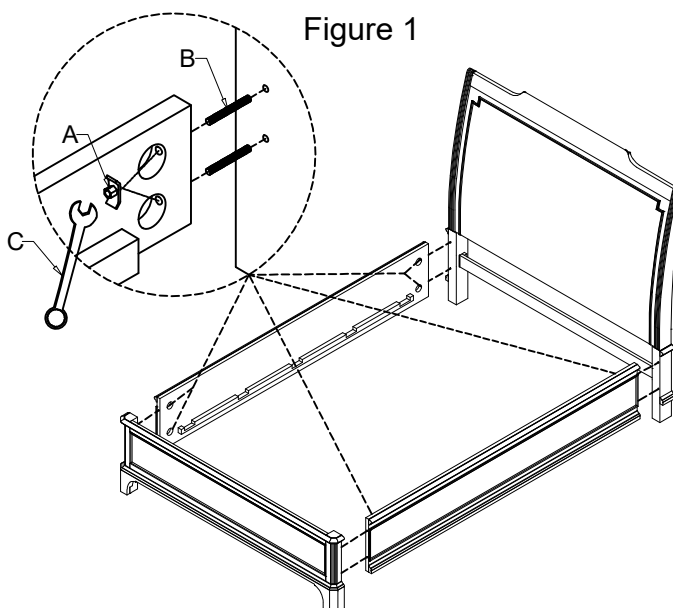

Figure 1
1. Screw the Thread Bolt (B) into the threaded insert of the Headboard post.
2. Then slide bed rail over the bolts until they are visible in the holes on the inside of the rails. Attach bed rail to the Headboard post by using Hexagonal Nuts + Curved Washers (A) and tighten all nuts with Spanner Wrench (C).
3. Repeat the same for the Footboard. (See Figure 1)